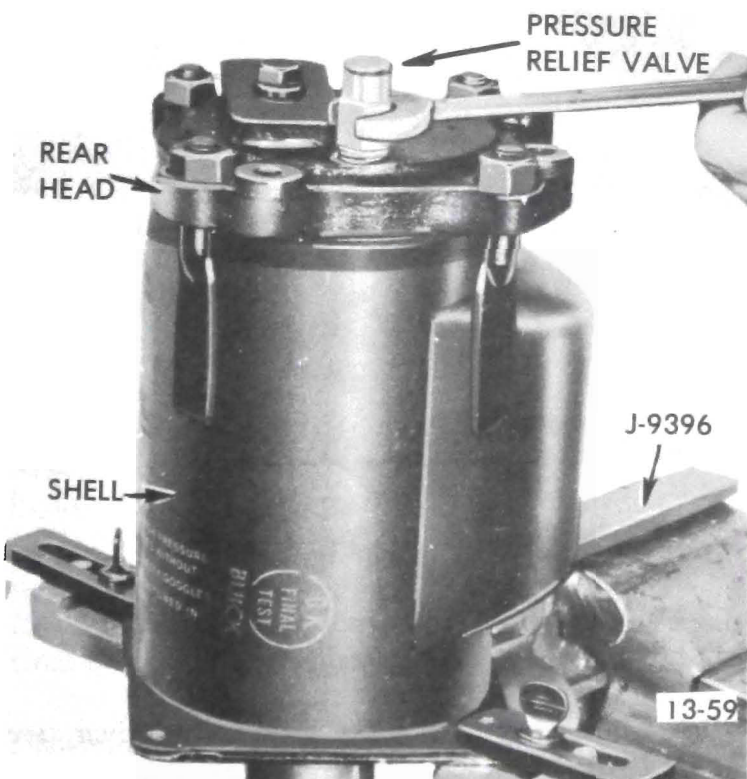

Figure 13-42 Compressor Installed in Holding Fixture
5. Reinstall compressor in holding fixture (J-9396) positioned as shown in Figure 13-42.